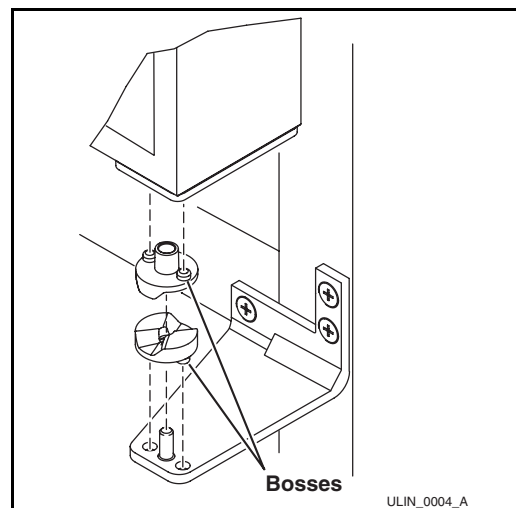

Figure 17. Bottom Hinge Door Closers
5. After adjustment is complete, remove the door closers from the bottom hinge, clean thoroughly and apply petroleum jelly to the mating surfaces of the closers. Be sure that bosses on closers (**Figure 17**) align with holes in the door and bottom cabinet hinge plates. Mount door and install top hinge pivot pin.